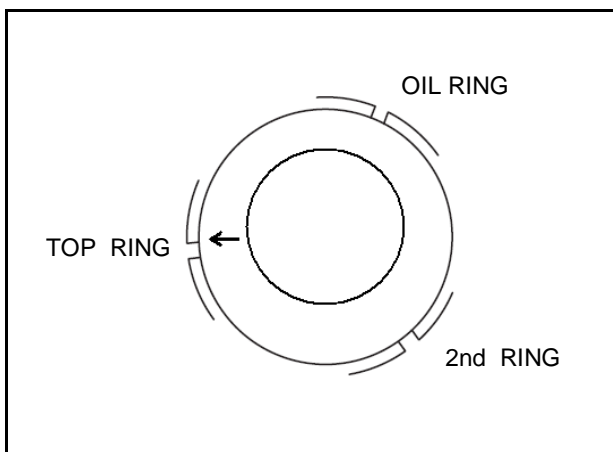

Fig. 14 - Stagger Ring End Gaps
3. Stagger ring end gaps as shown, Fig. 14.